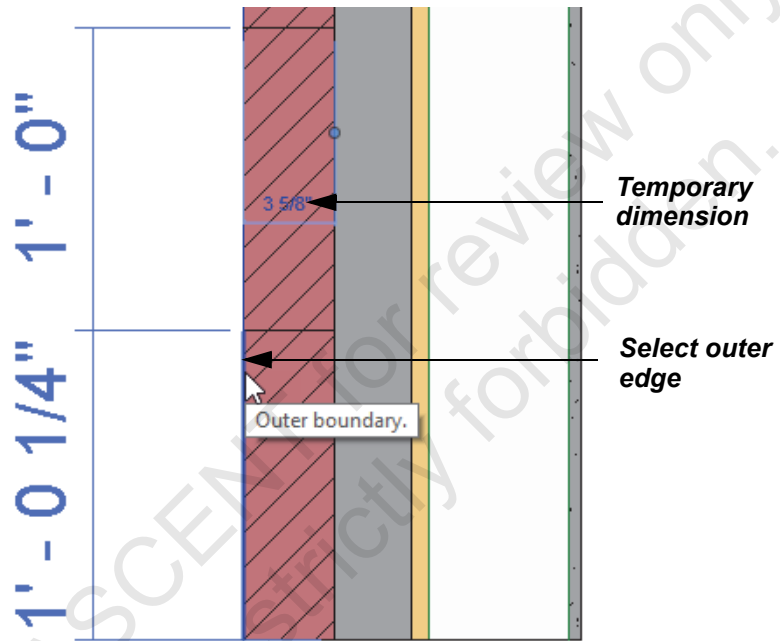

Figure 1–32
- You can add additional layers and assign functions as required. In the example shown in Figure 1–33, two layers have the function **Finish 1 [4]**, and each layer has a different material. When a region is split, the thickness of the original layer is set to **Variable** and cannot be modified in the *Layers* area of the Edit Assembly dialog box.